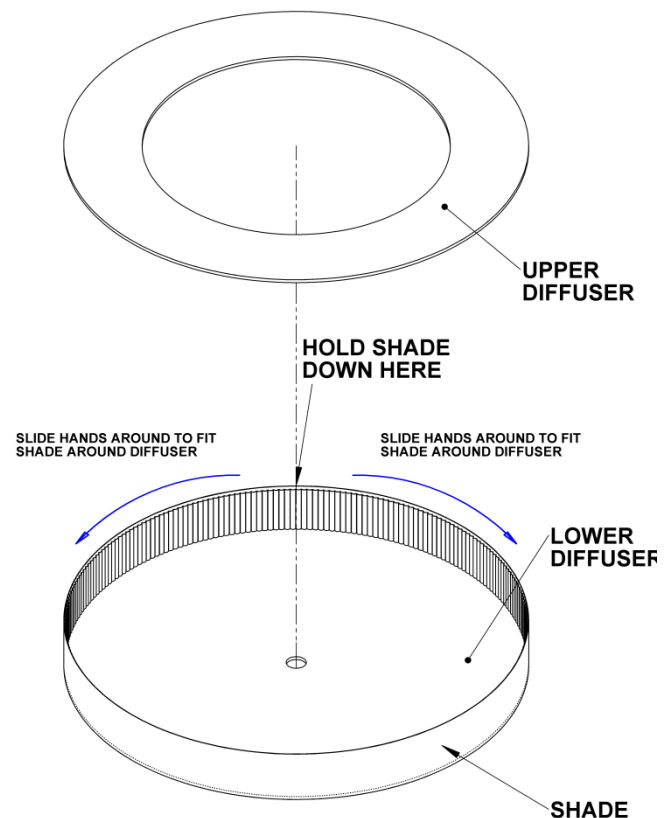

Figure 8
2. Fit shade over lower diffuser in one spot. Hold shade in place while a second person grasps the shade, slides their hands around the diffuser, fitting shade in place. (Figure 8)